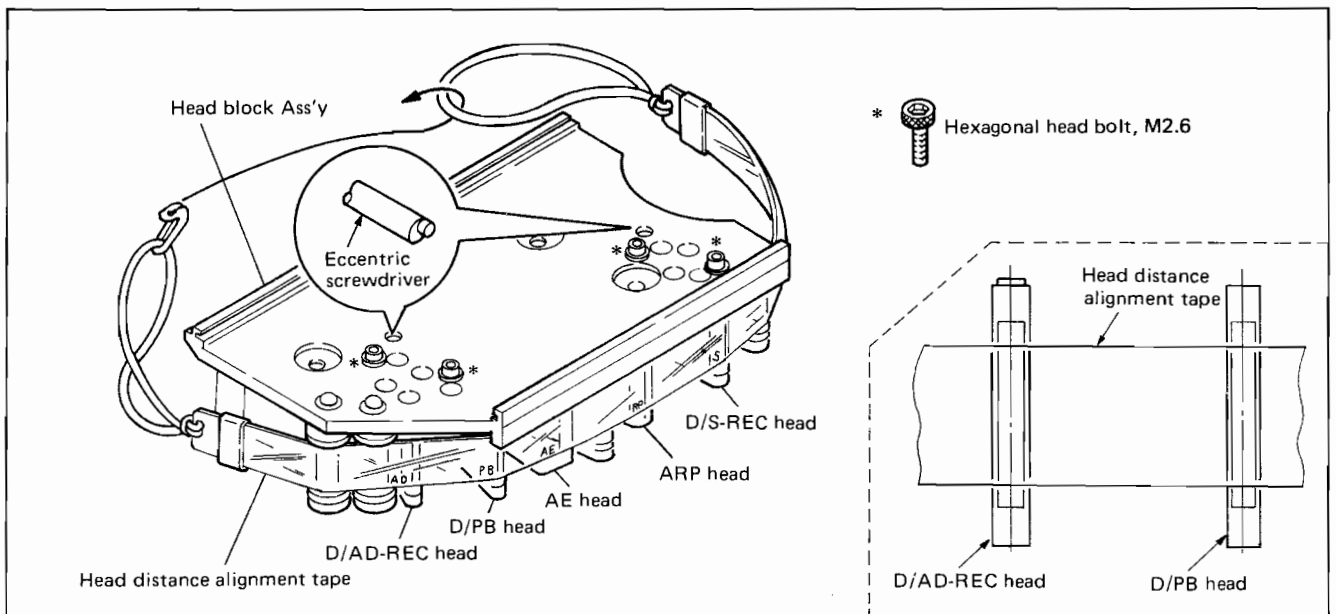

Fig. 5-23.
- ① Tentatively tighten the two fixing screws (hexagonal head bolt, M2.6) of D/AD-REC Ass'y. (Refer to Fig. 5-23.)
- ② Move the head Ass'y from side to side using an eccentric screwdriver to meet the specification. Then tighten the fixing screws (hexagonal head bolt, M2.6) at 10kg-cm by using a torque screwdriver. (Refer to Fig. 5-23.) (Fix at 10kg-cm using a torque screwdriver.)
- ③ The head Ass'y may shift while tightening the screws, so check that its final position conforms to the specification.
- ④ When there has been a large shift due to error, use a jig (head distance alignment tape) to readjust the distance between the D/PB and D/AD-REC heads. (Refer to Fig. 5-23.)
(Refer to Fig. 5-23.)